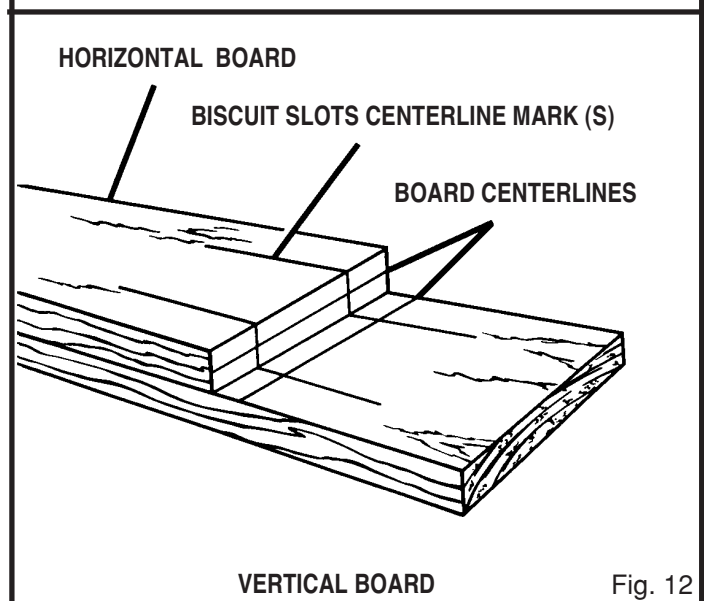

Fig. 12
- Place the two pieces of wood to be joined on a level workbench as shown in figure 12. The inside face of the vertical board should be facing up.